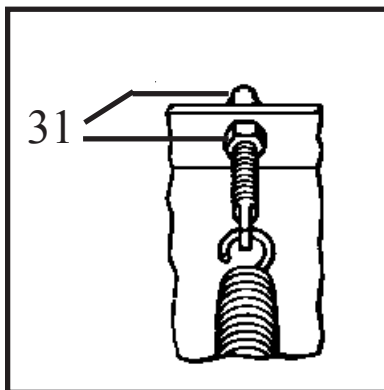

Figure 1
- d. Make certain each Eye Bolt (21) is in a vertical position as shown in figure 1 so that the Eye Bolt (21) and Trip Spring (34) hinge properly when moldboard trips.